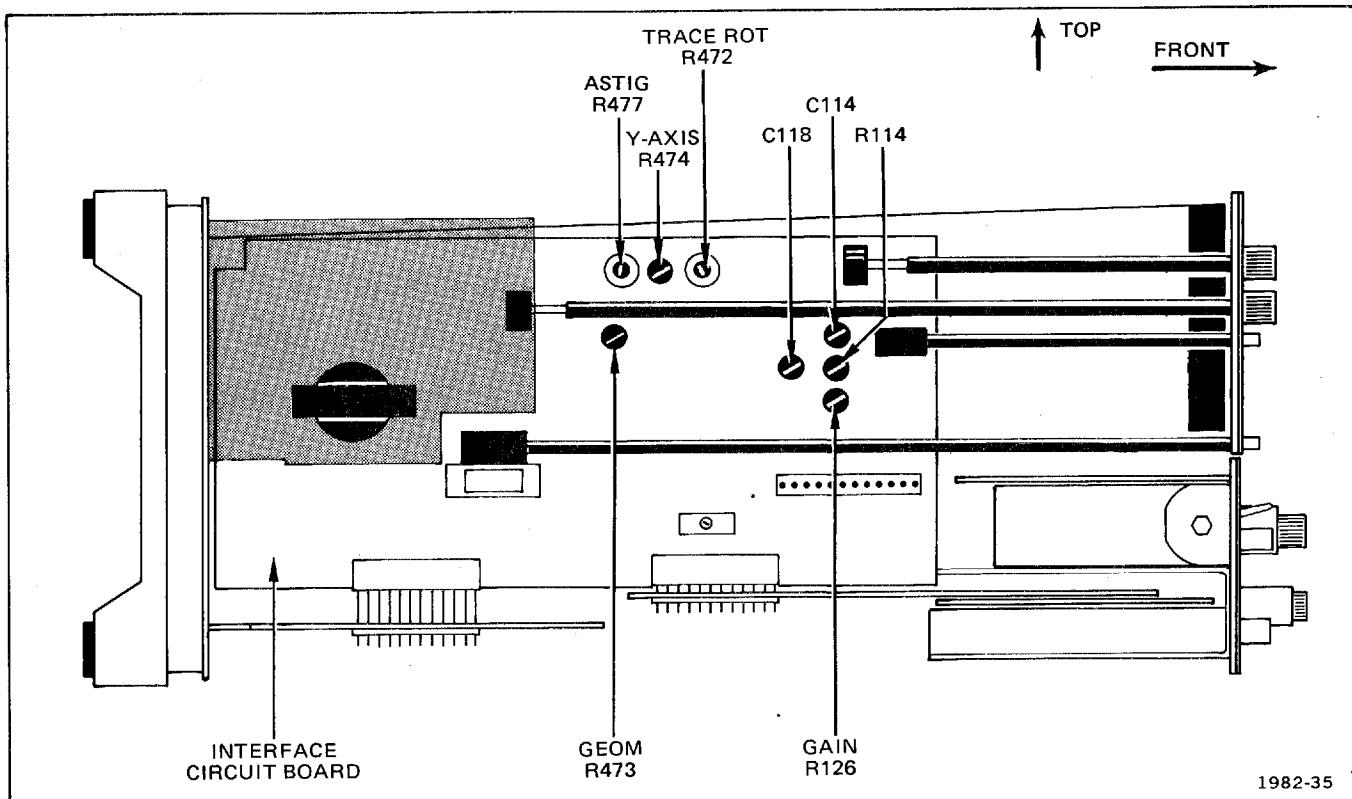
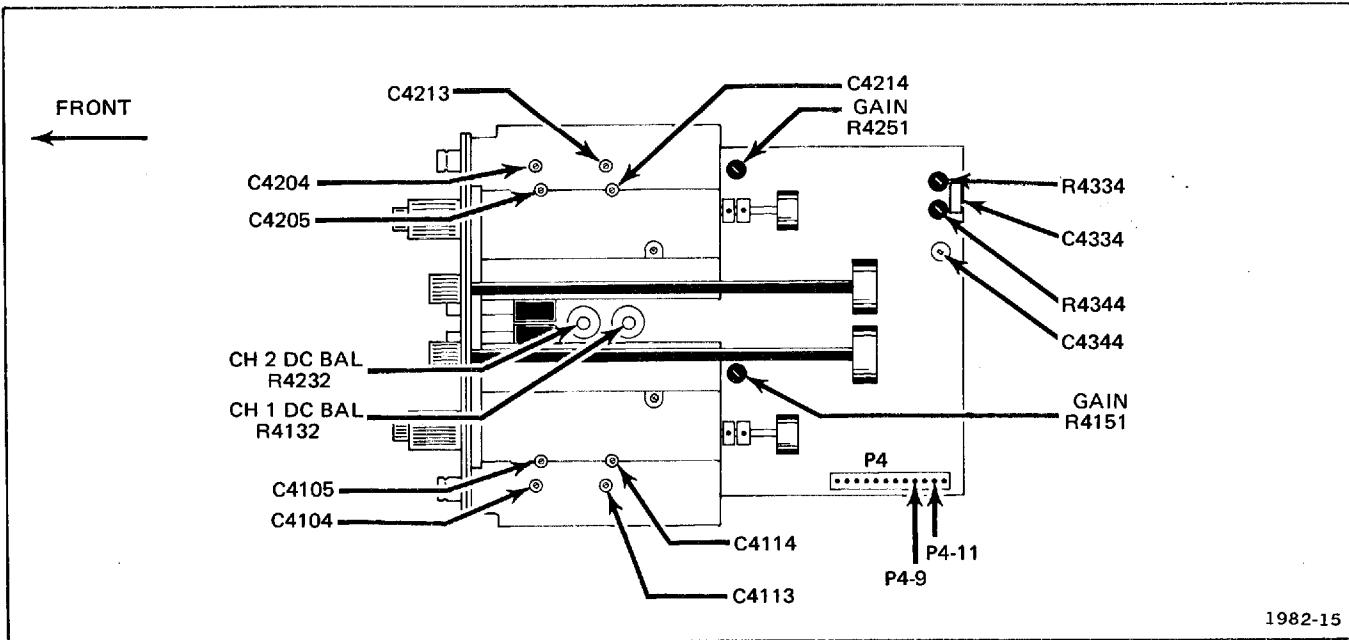
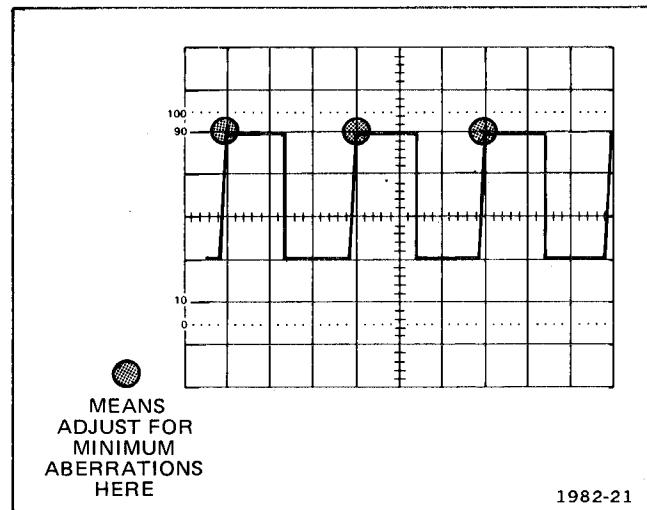

Fig. 4-3. Interface board adjustment locations.
Fig. 4-4. Vertical amplifier adjustment locations (bottom view of T921 and T922).
Fig. 4-5. Display of correct (idealized) attenuator compensation.
e. ADJUST—Y-Axis, R474, (see Fig. 4-3) to align center marker with center vertical graticule line.
b. ADJUST—Geom, R473, (see Fig. 4-3) for best alignments of markers with the vertical graticule lines.
- ADJUST—CH 1 DC BAL, R4132 (see Fig. 4-4) for no trace shift while switching CH 1 VOLTS/DIV control between 2 mV and 10 mV.
- ADJUST—CH 2 DC BAL, R4232 (see Fig. 4-4) for no trace shift while switching CH 2 VOLTS/DIV control between 2 mV and 10 mV.
- Set Gain, R126 (see Fig. 4-3) to physical midrange.
- c. Connect digital voltmeter between P4-9 and P4-11 (see Fig. 4-4). Select range on meter for at least 500 mV reading.
- e. ADJUST—Gain, R4251 (see Fig. 4-4), for 4 division display.
- c. ADJUST—Gain, R4151 (see Fig. 4-4), for 4 division display.
e. ADJUST—R4334, C4334, R4344, C4344 (see Fig. 4-4), C114, R114, C118 (see Fig. 4-3), for best front corner of waveform using low capacitance screwdriver.
c. ADJUST—C4114 (see Fig. 4-4) for best square front corner (see Fig. 4-5 for example).
e. ADJUST—C4105 (see Fig. 4-4) for best square front corner (see Fig. 4-5 for example). Disconnect test equipment.
c. ADJUST—C4214 (see Fig. 4-4) for best square front corner (see Fig. 4-5 for example).
- e. ADJUST—C4205 (see Fig. 4-4) for best square front corner (see Fig. 4-5 for example). Disconnect test equipment.